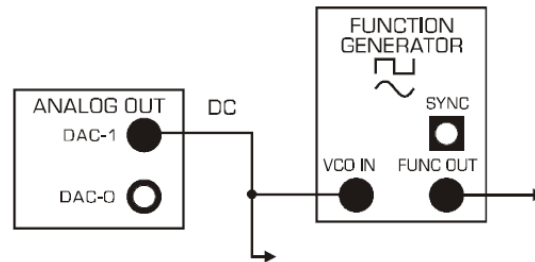

Figure 2-4 Diagram of the model for investigation of VCO as a system
1. Connect the circuit shown in Figure 2-4. Settings are as follows: